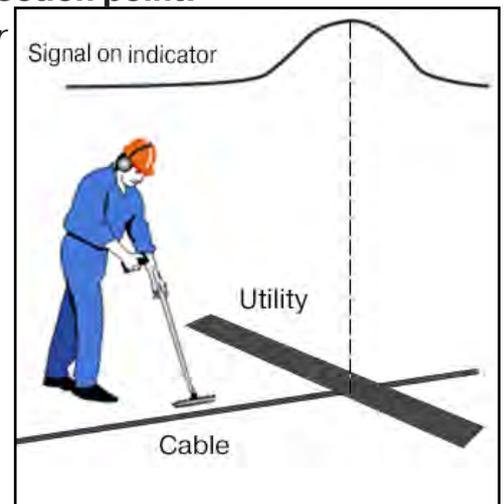

Fig. 7.2
3. Position the electromagnetic antenna over the pipeline, parallel to the pipeline route (signal level displayed on the receiver screen will be close to zero) (**fig. 7.2**). Perform route location in accordance with the maximum method. When following the route, the intersection points with utility lines can be identified by the maximum signal.